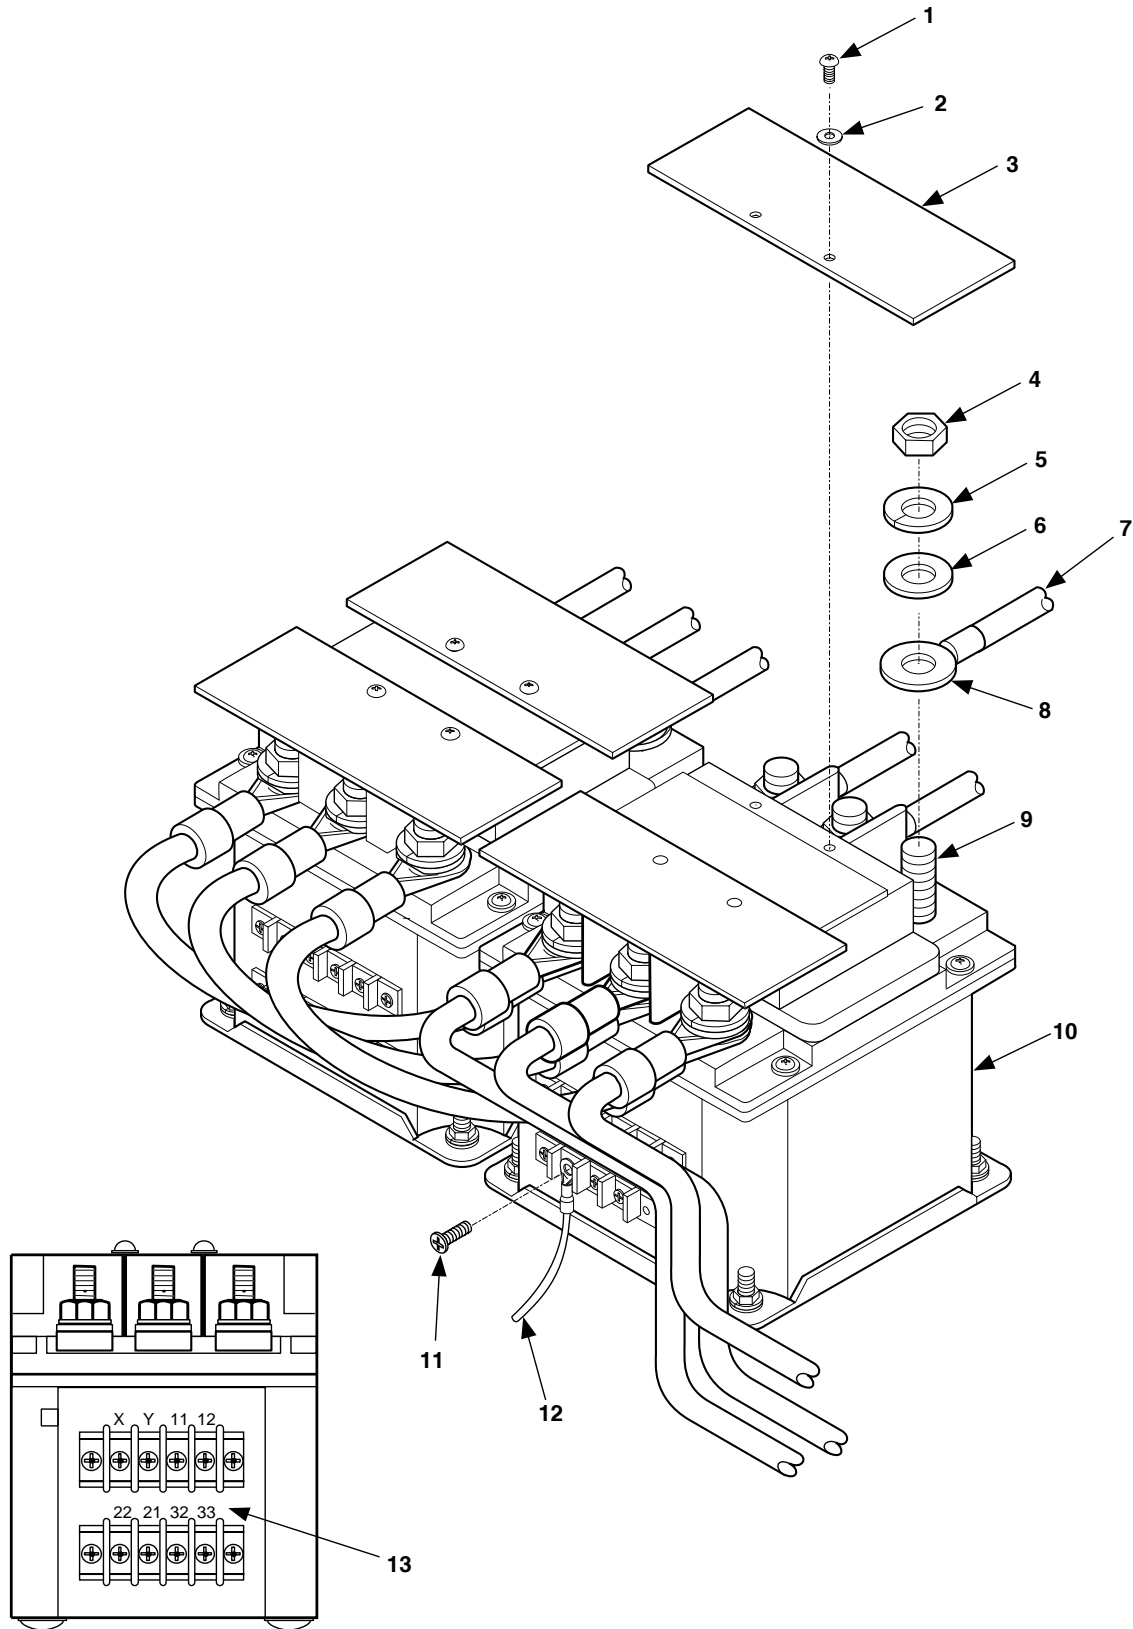

Figure 5-11. Disconnect Switch Box Harness W9 from Contactor
1. Remove two screws (1, figure 5-11), lock washers (2), and contactor shields (3) that cover contactor terminals A2, B2, and C2 of contactor K1 and K2, and terminal A1 of contactor K2.
8. Refer to table 5-1 and install W9 wires (7, figure 5-11), flat washers (6), lock washers (5), and nuts (4) on contactor terminals (9).
9. Refer to table 5-1 and install W9 leads (12) on terminals (13) using screws (11).
10. Install contactor shield (3), two lock washers (2), and screws (1) over contactor terminals A2, B2, and C2.